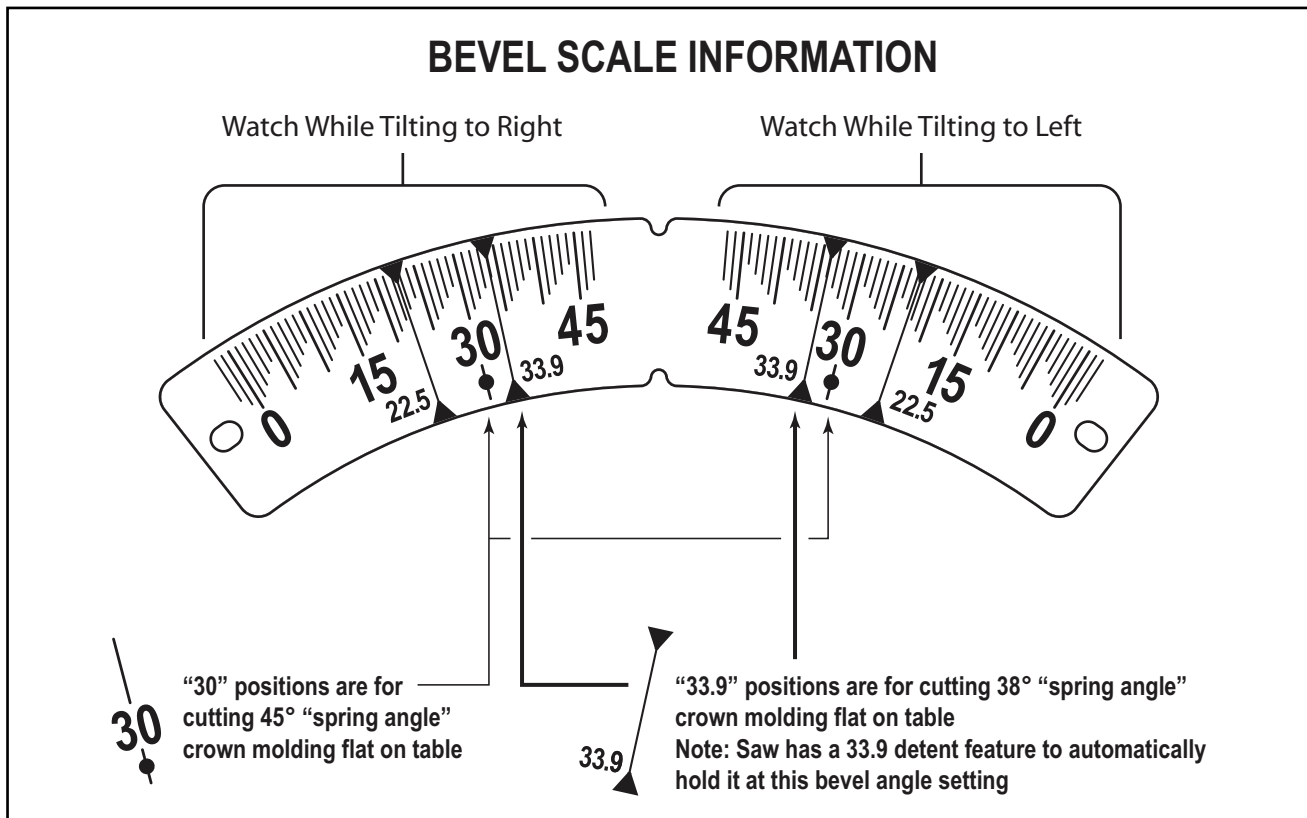

Figure 48. Bevel Scale Information
- The bevel scale is sized and positioned for easy reading – see Figure 48.